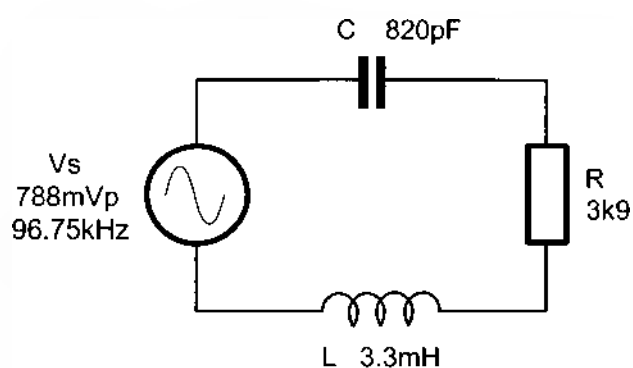

Figure 7
13. For the circuit of Figure 7, calculate: